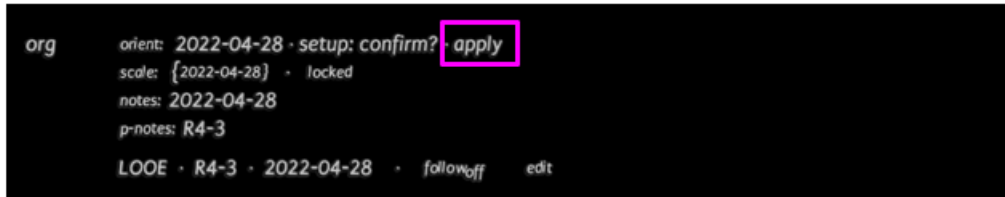

Figure 94. Click `apply` as shown above to finish orientation setup in Org.
4. At the top of the Org menu next to `orient`, click `apply` then `confirm?` when it appears (Figure 94).